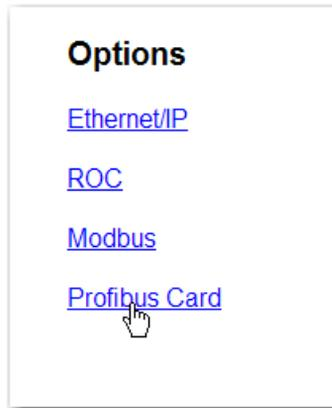
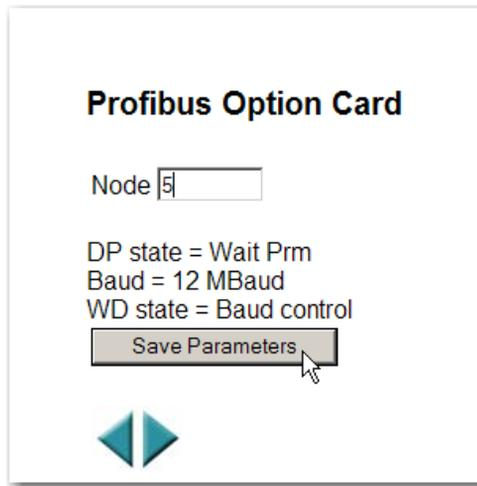

FIG. 275 OPTIONS MENU/SELECTING PROFIBUS CARD
FIG. 276 PROFIBUS OPTION CARD/ENTERING NODE ADDRESS
Step 2. Click on Profibus Card. (See Fig. 275) The Profibus Card Option page appears. (See Fig. 276)